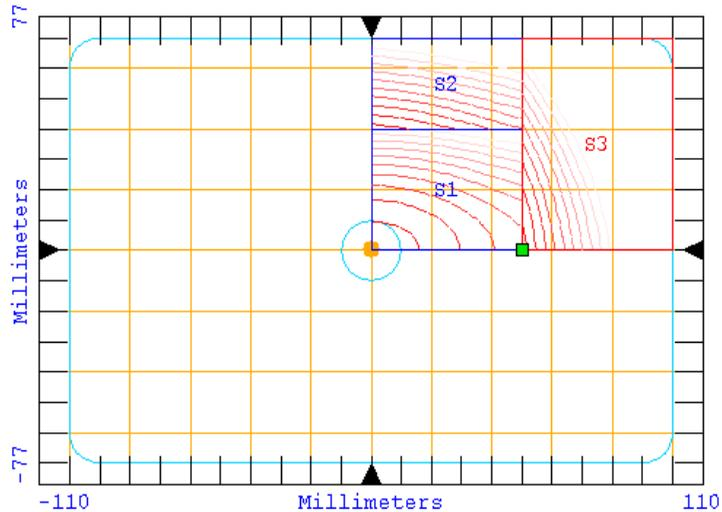

Figure 1.21 Reflector view following creation of third segment
- 1 Create a third rectangular segment, starting at (50,0) with the opposite corner at (100,70). The reflector view should now look like Figure 1.21.